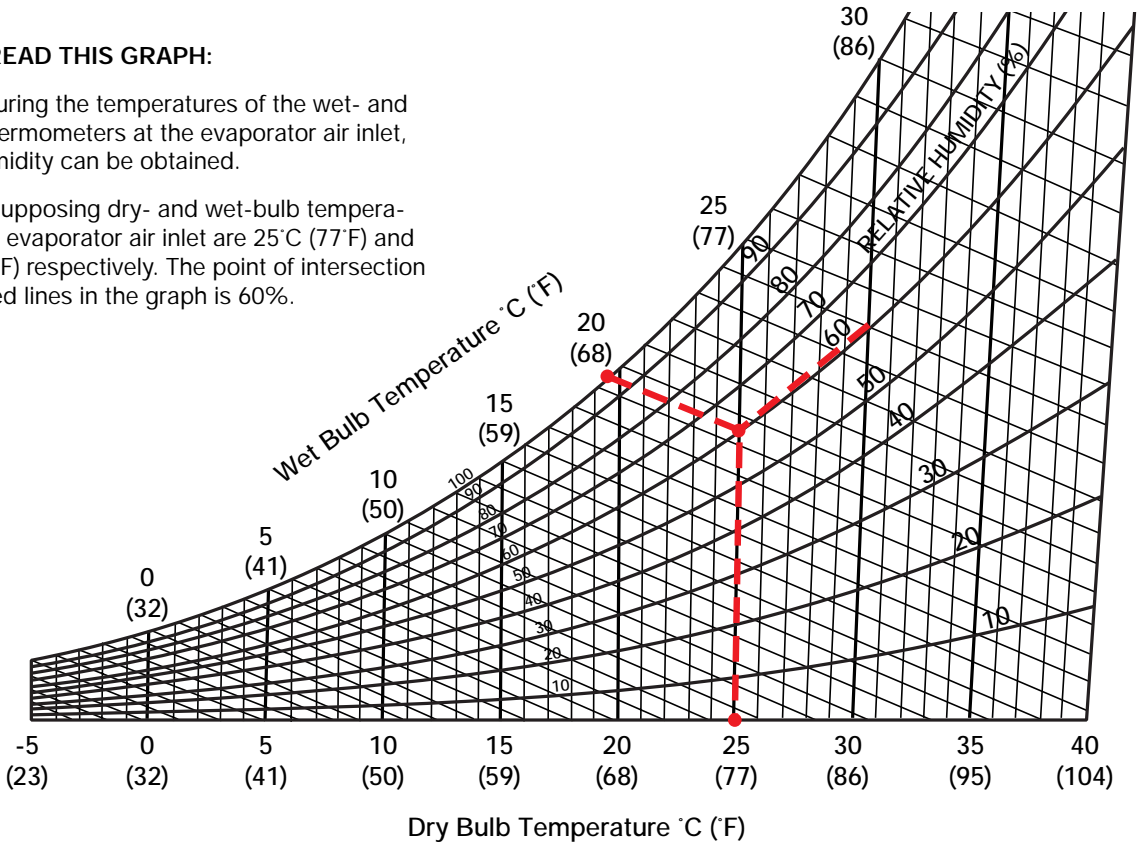

Fig. 128: Psychrometric Graph
- Calculate the relative humidity from the psychrometric graph by comparing the wet and dry bulb readings of the psychrometer at the air inlet. (Fig 128)